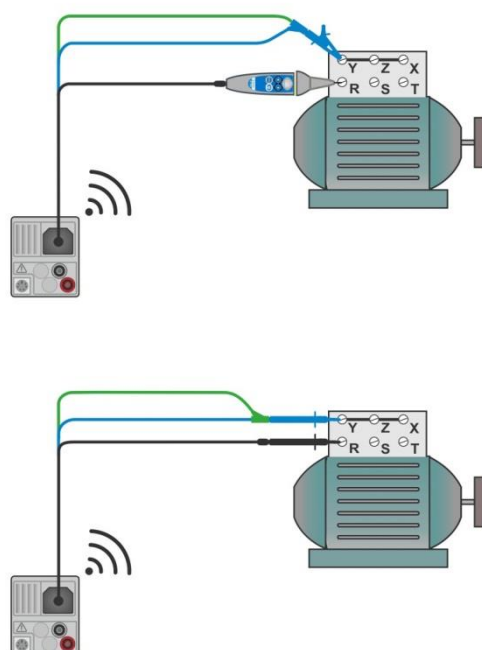

Figure 7.22: Tip commander and 3-wire test lead applications
- › Connect test leads to device under test, see **Figure 7.22**.